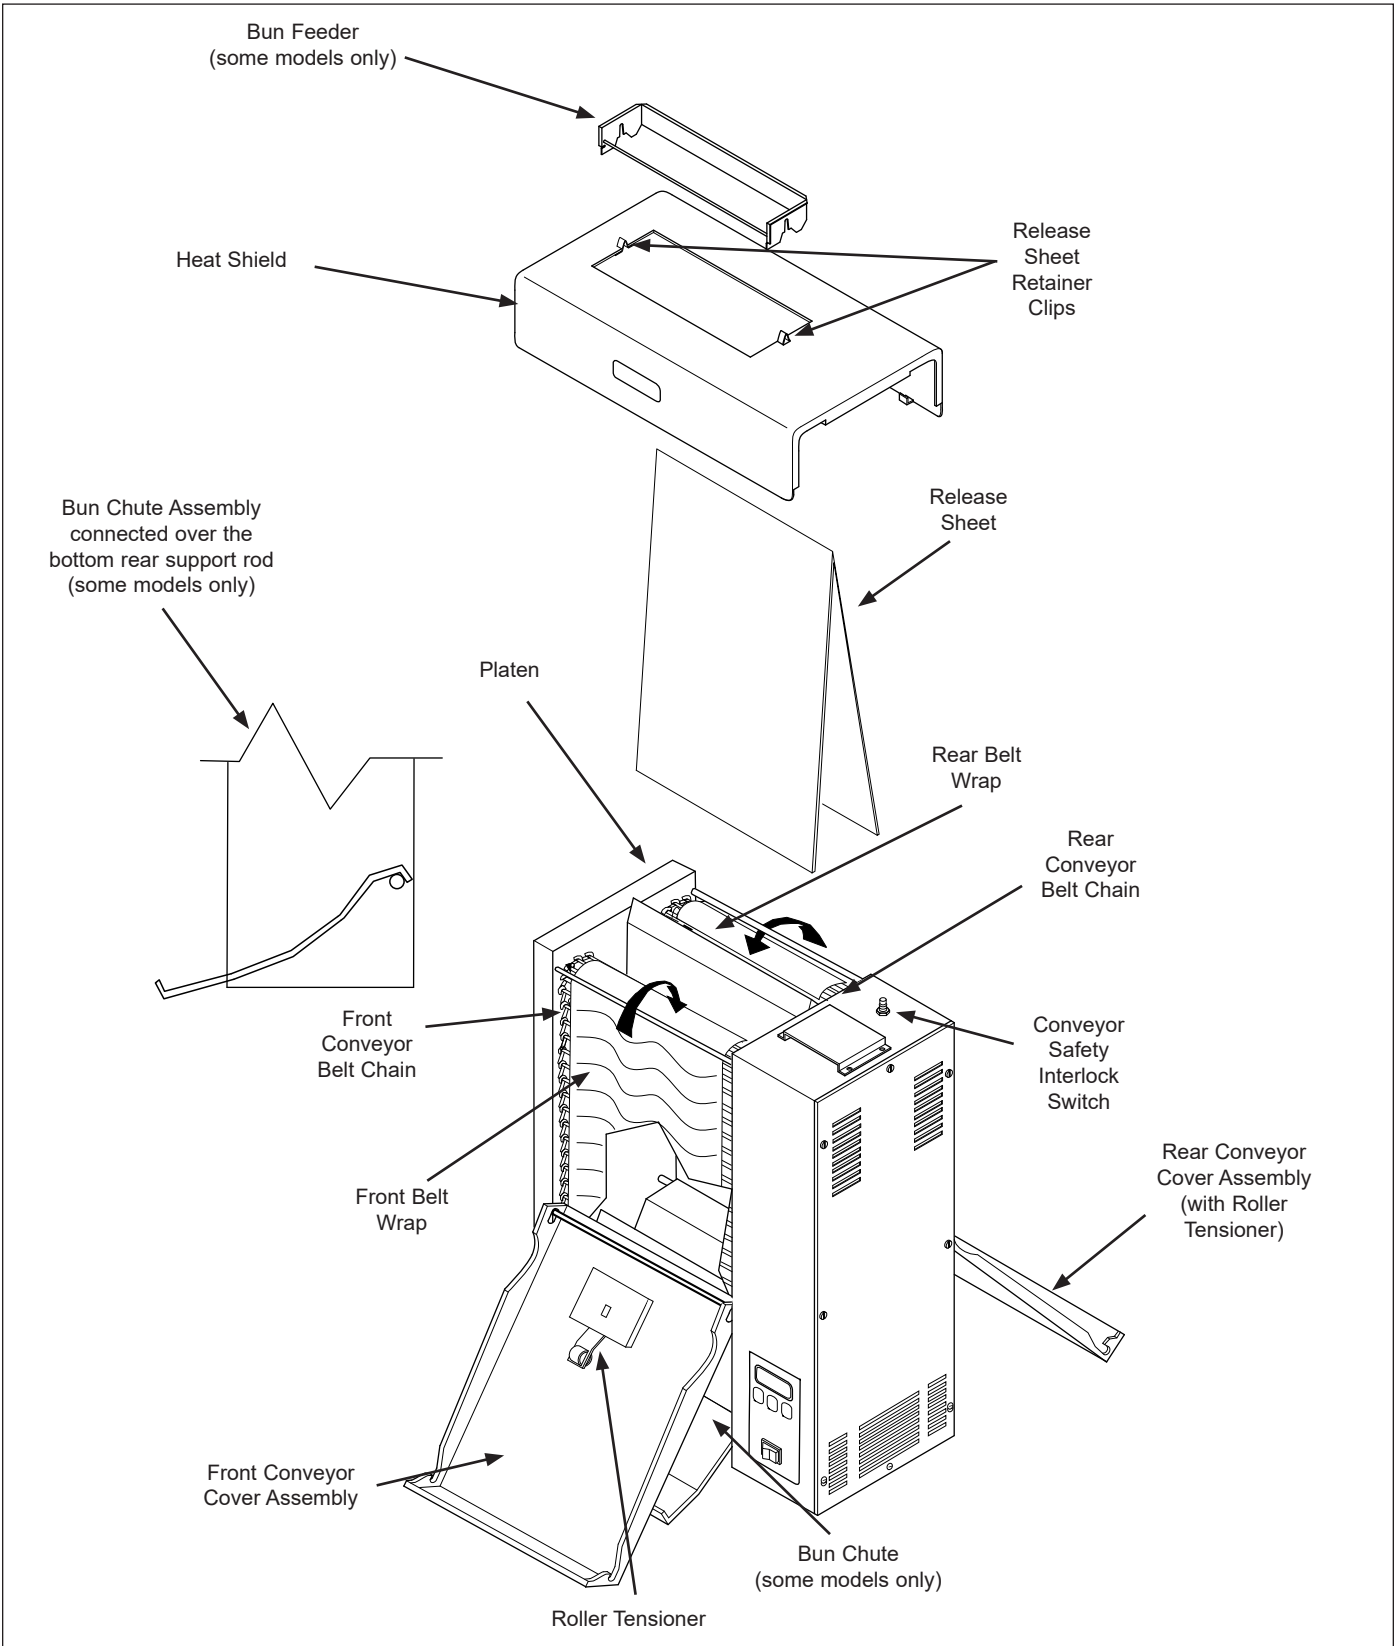

Figure 1. VCT-2000 Toaster
- Bun Chute (Figure 1).
- Bun Feeder (Figure 1).
- Two Release Sheets (Figure 1).
**NOTE: The factory has pre-installed a Release Sheet over the Platen (Figure 1). Verify that it is properly in place before proceeding.**
1. Remove Bun Chute and Bun Feeder from the box and install (Figure 1).
**NOTE: Make sure Heat Shield Assembly is activating the Conveyor Safety Interlock Switch (Figure 1). The conveyors will not rotate unless the Heat Shield is in place and Conveyor Safety Interlock Switch is activated.**